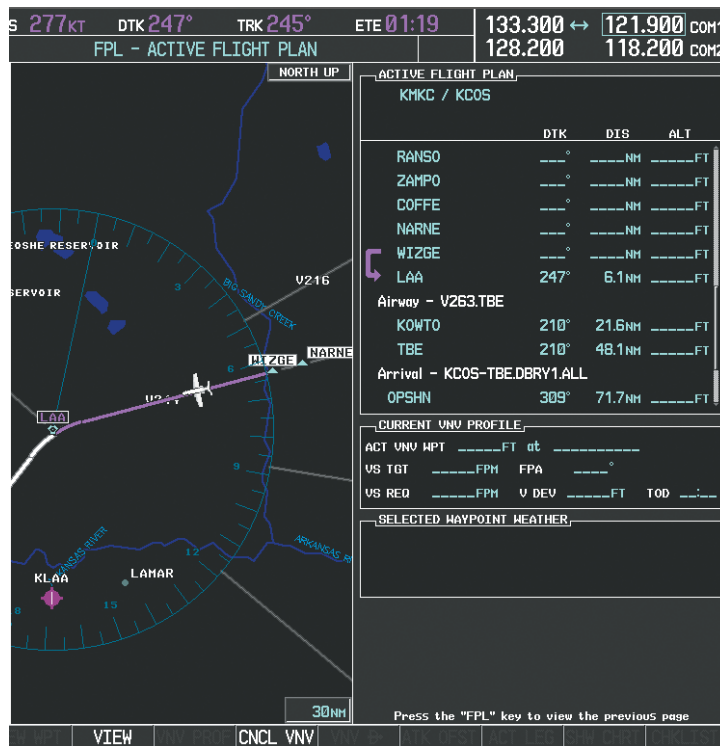

Figure 5-127 WIZGE to LAA Leg Active
10) At Lamar VOR (LAA) V263 is intercepted. See Figure 5-127.